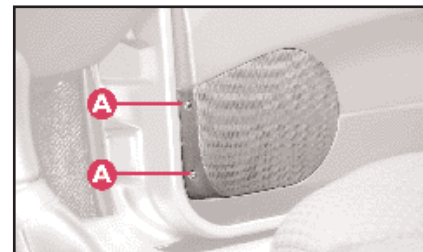

fig. 90
- to install the speakers in the doors, unscrew the screws A (fig. 90) and remove the protective grille.